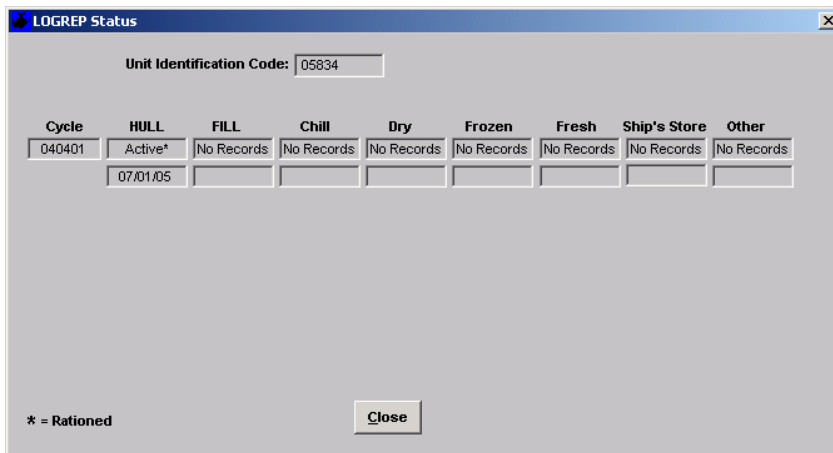

Figure 4.3
- 4.1.2.6 If operating under LOGREP, ~~click on~~ click on the **LOG (LOGREP Status)** button on the **Activity Control Information** window to view the **LOGREP Status (Figure 4.3)** window. This window presents the LOGREP status for the UIC sorted by Cycle Number and Material Indicator Code. Status will be one of the following: Staged, Hatched, Expended, Billed, Printed, Active, or Pending. An asterisk (*) after the status indicates that rationing has also been performed against some of the records. The information displayed is for viewing only and may not be modified. Click **Close** to return to the **Activity Control Information** window.